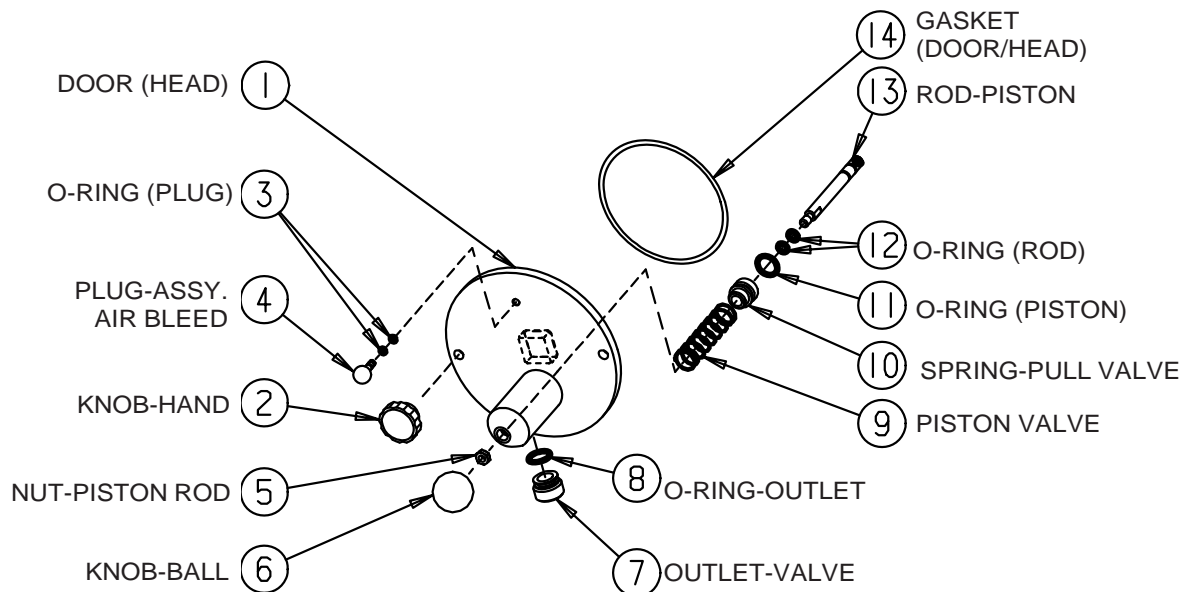

Figure 7-4
9. Assemble piston assembly (figure 7-4, items 10, 11, 12, 13) by installing the first rod o-ring (12) in groove farthest from the threads on piston rod (13) and lubricate. Then slide piston (10) over o-ring, large diameter end first. Now install the second (holding) rod o-ring (12) on rod (13) in groove closest to the threads and lightly lubricate. Install and lubricate piston o-ring (11).
10. Insert spring (9) into back side of door piston body.
11. Insert the piston assembly, threaded end first, through the center of the spring in piston body until the piston is flush with the back of the door (1).
12. Thread nut (5) on piston rod until it is off threaded portion, then screw the ball knob (6) down finger tight.
13. Install and lubricate the outlet valve o-ring (8) then insert outlet valve (7) into piston body.
14. Install and lubricate the two air bleed plug o-rings (3) then insert plug (4) into the door (1).
15. Install door gasket (14) into the groove on back of door (1). Lightly lubricate.
16. Install dispensing door (1) on freezer by sliding door over threaded studs and aligning square end of breaker bar with square in dispensing door. Slide door into cylinder and install hand knobs, being careful to tighten simultaneously and finger tight only.